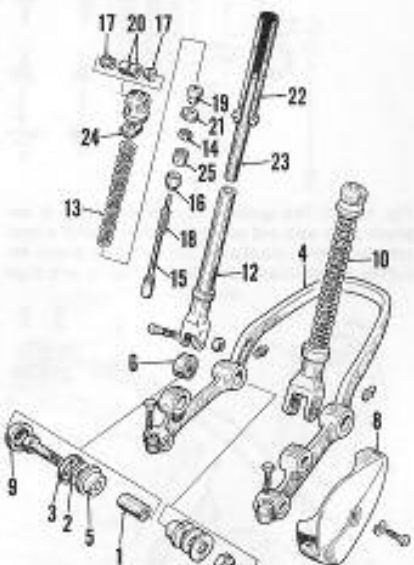

Fig. HN8-13—Exploded view of front suspension used on C and CA models.
**SUSPENSION.** Refer to Figs. HN8-13, HN8-14, HN8-15 and HN8-16 for exploded views of the units used. On CB models (CB72 and CB77), the different types of front suspension can be